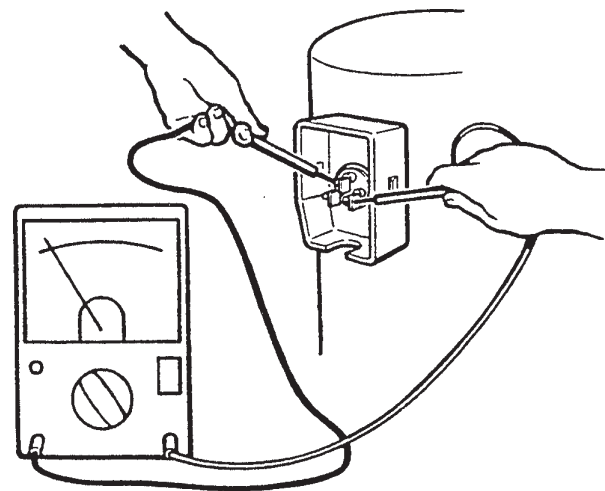

Figure 30. Ohmmeter and Connections
4. Connect an ohmmeter to terminals C and R. Resistance through the run winding should be 3.12 to 3.60 ohms with the ohmmeter set at ohms x 1 (Figure 30).